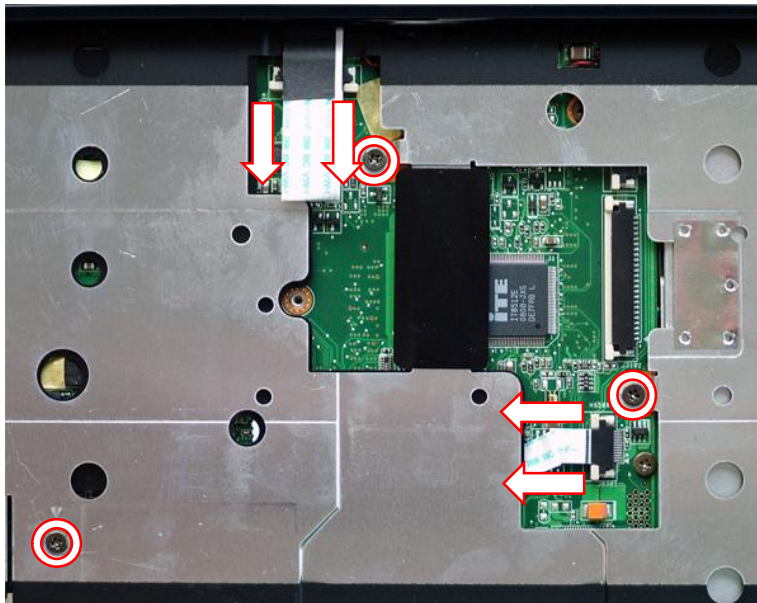

Fig. 16 Location of touchpad and button board flat cables.
7. Remove the three screws securing the top cover (see Fig. 16).